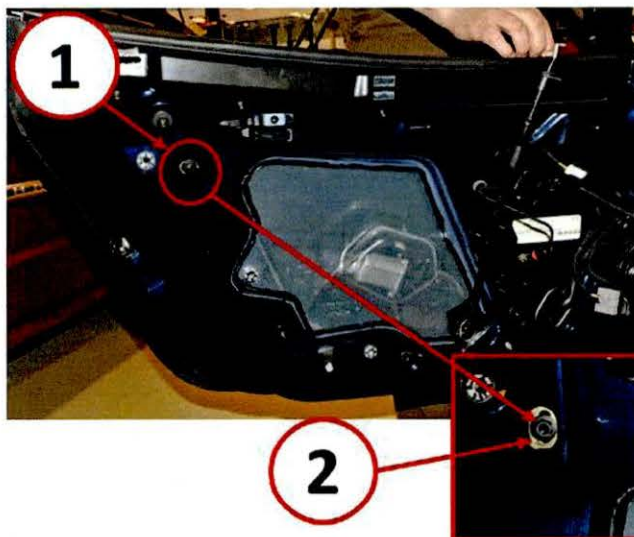

Fig. 1 Window Up Stop Adjustment
4. Loosen the window up-stop limit adjustment bolt (1) and tap area lightly to ensure up-stop limit bracket (2) drops down to bottom of slotted hole. (Fig. 1).
8. Tighten the up-stop limit adjustment bolt (1) to 7 +/- 2N-m.(Fig. 1).